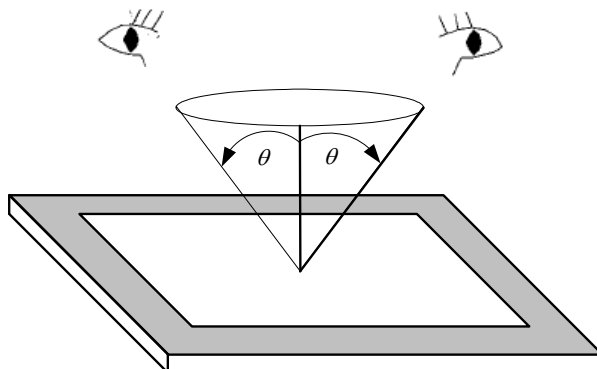

Fig 11.1
- The viewing zone is defined with angle θ shown in Fig. 11.1 The inspection should be performed within 45° when display is shut down. The inspection should be performed within 5° when display is power on.